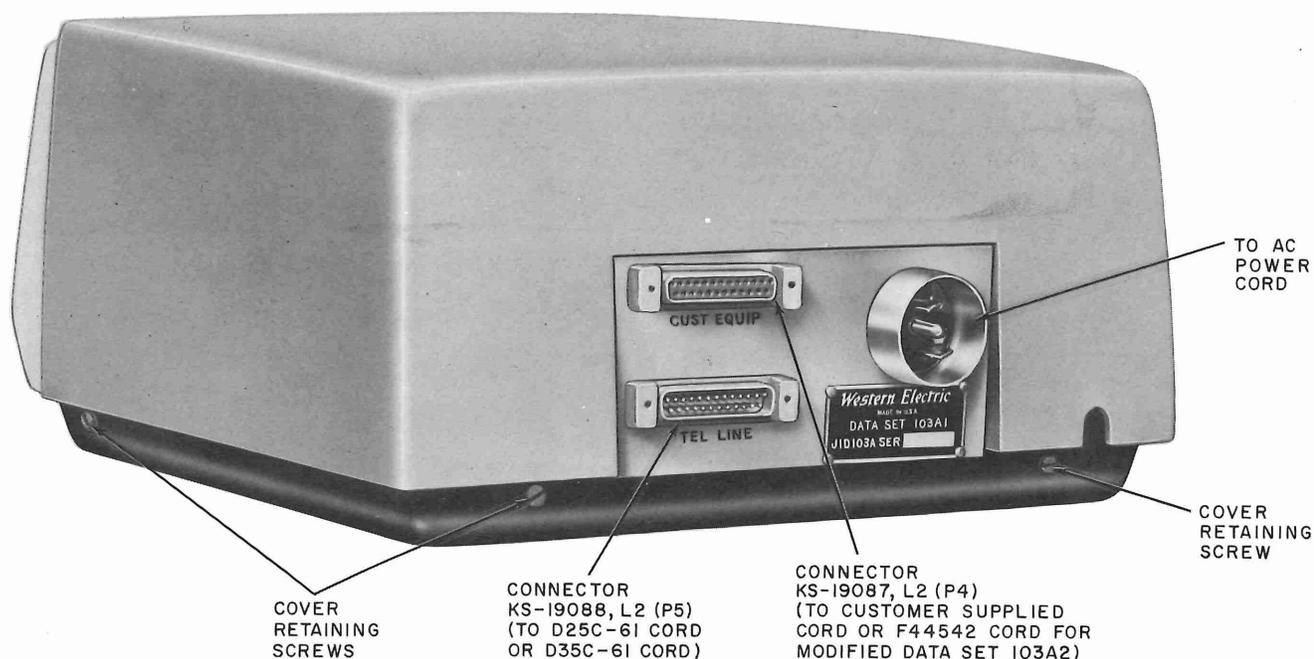

Fig. 4—Data Set 103A-Type—Rear View
2.02 The data set comes equipped with a 35-conductor, 5-1/2 foot D35C-61 cord which is used to connect the DAS 804B1 to the KS-19088-List 2 connector (designated TEL LINE) on the rear of the data set (Fig. 4). In addition, data set 103A-type comes equipped with a 3-conductor, 10-foot KS-14532-List 15 power cord.